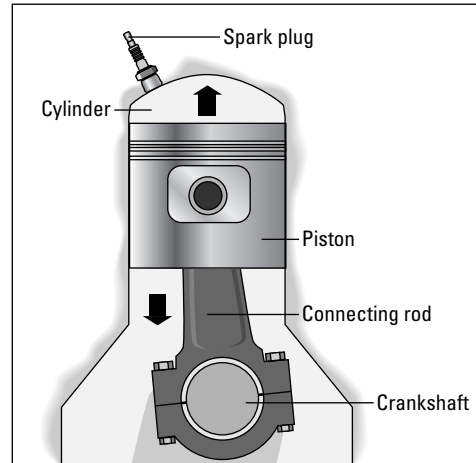

Figure 4-4: A cylinder and piston.
- The **fuel/air mixture** passes into the **cylinders** in your engine. A cylinder, as shown in Figure 4-4, is a hollow pipe with one open end and one closed end. Inside each cylinder is a **piston**, which fits very snugly and moves up and down. The piston moves up, trapping the fuel/air mixture in the upper part of the cylinder and compressing it into a very small space.